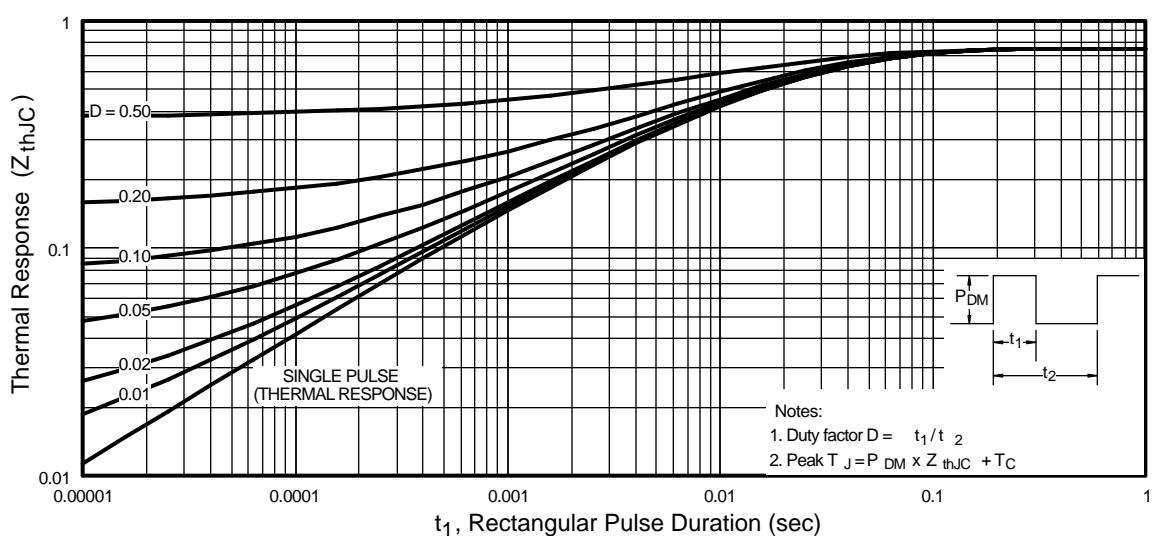

Fig 11. Maximum Effective Transient Thermal Impedance, Junction-to-Case
① Repetitive rating; pulse width limited by max. junction temperature. (See fig. 11)
② Starting $T_J = 25^\circ\text{C}$, $L = 190\mu\text{H}$